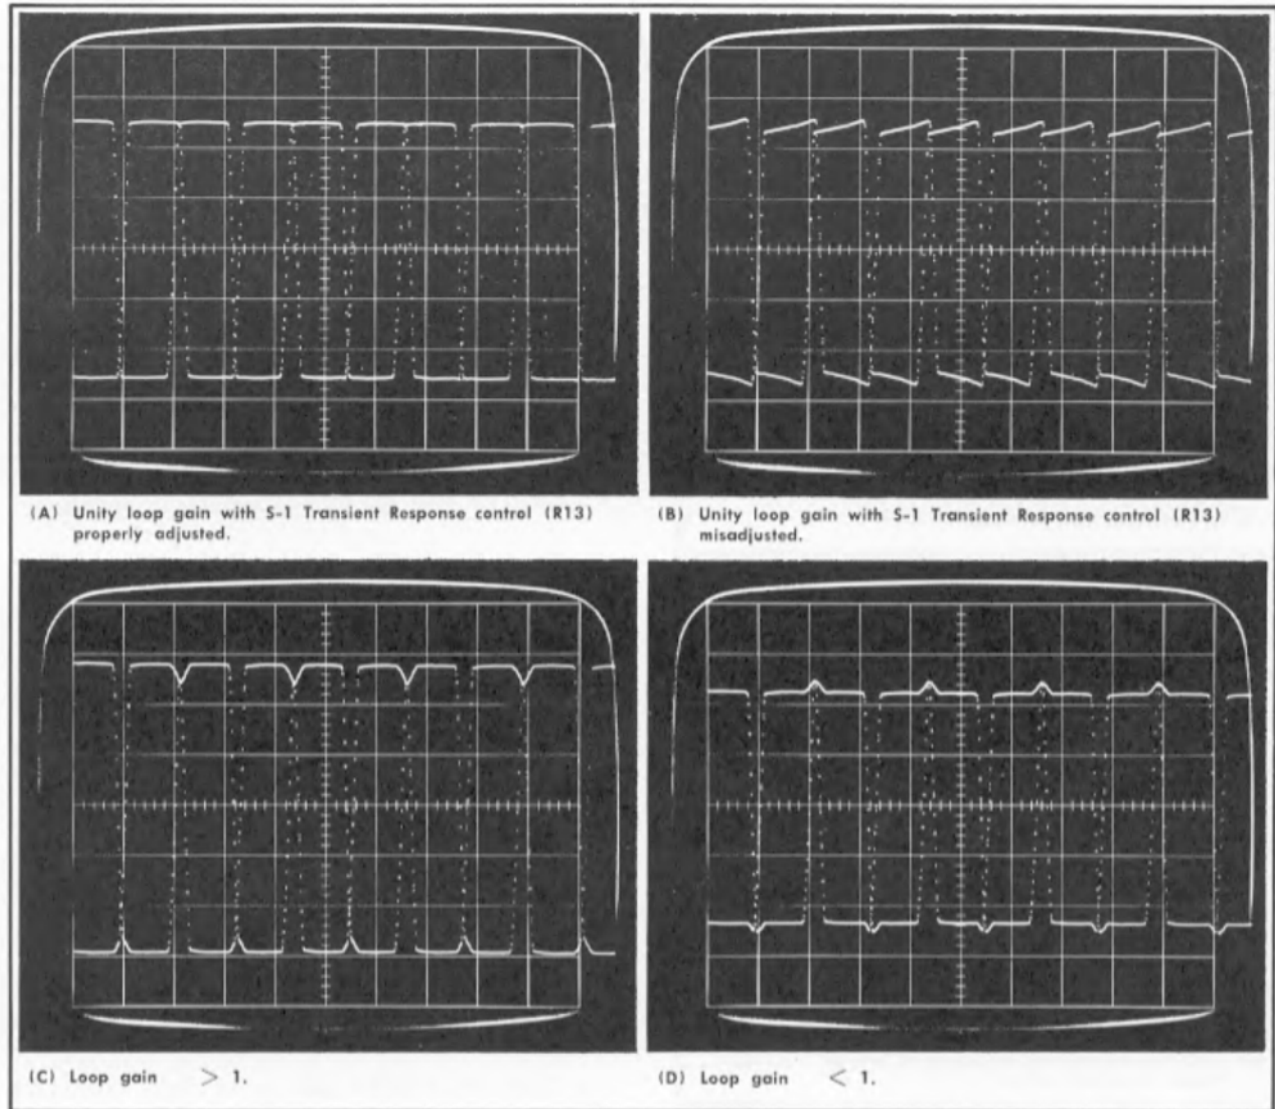

Fig. 7-5. Type 356/51 waveforms, 1 μ s period square wave, sampling sweep double triggered at 500 ns/div.
b. Set the sampling sweep unit for 500 ns/div (0.5 μ s/div). Obtain a double-triggered display on the indicator oscilloscope by free running the time base and adjusting the Recovery Time control. The display should be similar to any one in Fig. 7-5.
e. Adjust the sampling sweep unit Trigger Sensitivity and Recovery Time controls for a double-triggered indicator oscilloscope display similar to any in Fig. 7-5. The test oscilloscope display should be similar to the waveform in Fig. 7-8A when the sampling head is Type S-1, to Fig. 7-8B or C if the sampling head is Type S-2, and similar to Fig. 7-8D if the sampling head is a Type S-3. (It is recommended that a Type S-3 be used if available.)